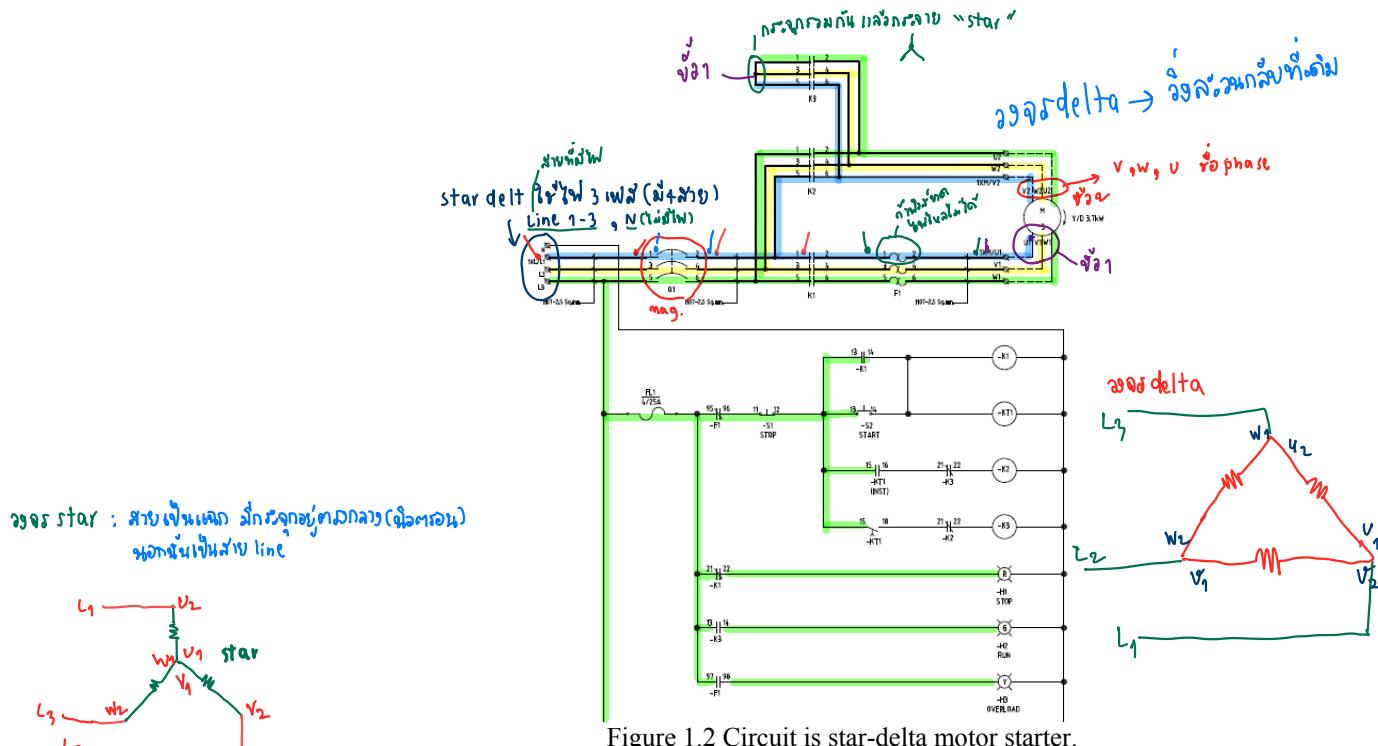

Figure 1.2 Circuit is star-delta motor starter.
2. Study the circuit diagram as shown in figure 1.2, 1.3; try to connect the cable.